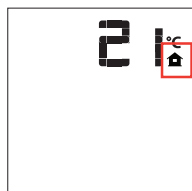

Figure 48b - Remote Control Displaying Room Temperature
1. Press the ON/OFF button on the transmitter. The transmitter LCD display will only show the room temperature and icon (see Figure 48b). The receiver disconnects and will command the DFC board to turn off the burner.